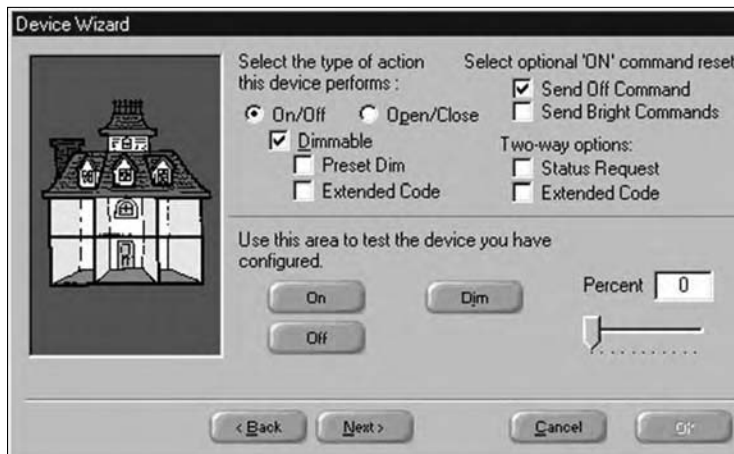

Figure 13-6:
As you can see in Figure 13-6, this screen is where you set each device's behavior. Some devices can simply turn on and off, while others are dimmable or have other options.
9. Test the device by clicking one of the test buttons shown in Figure 13-6.